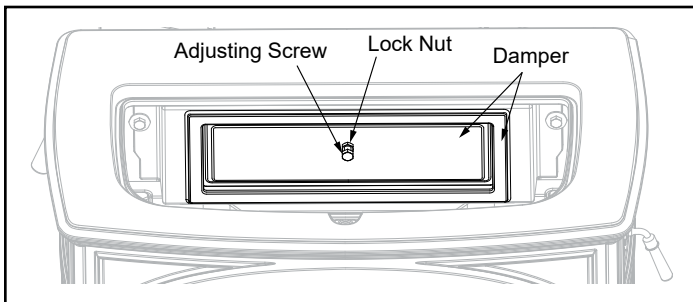

Figure 3.3 - Adjust the damper with the Allen wrench.
1. Remove the griddle. Loosen the lock nut at the center of the damper, Figure 3.3.